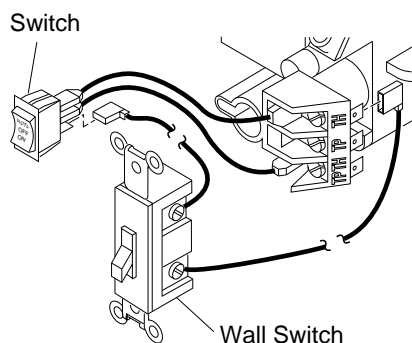

Figure 17 - Connecting the Wire Terminals
1. Connect one terminal of 25 ft. wire to bottom contact of switch located on heater front control panel (see Figure 17).
2. Connect remaining wire terminal to the "TH" terminal on the control valve (see Figure 17).